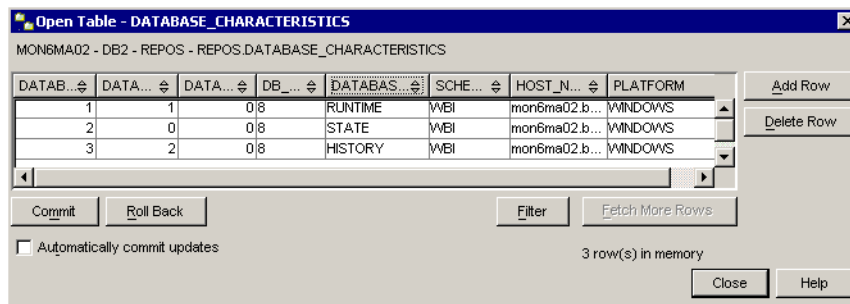

Figure B-11 Monitor Server Repository database table verification
- ▶ Open the REPOS database, and display the table DATABASE_CHARACTERISTICS. You should see some data that represents your system, for example, Windows, hostname, and so forth (Figure B-11).